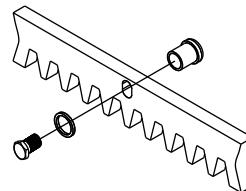

Fig. 6
5.2. Fix to each gear rack element the support pawls using the appropriate lock screws, taking care to place them in the upper part of the hole (Fig. 6) :